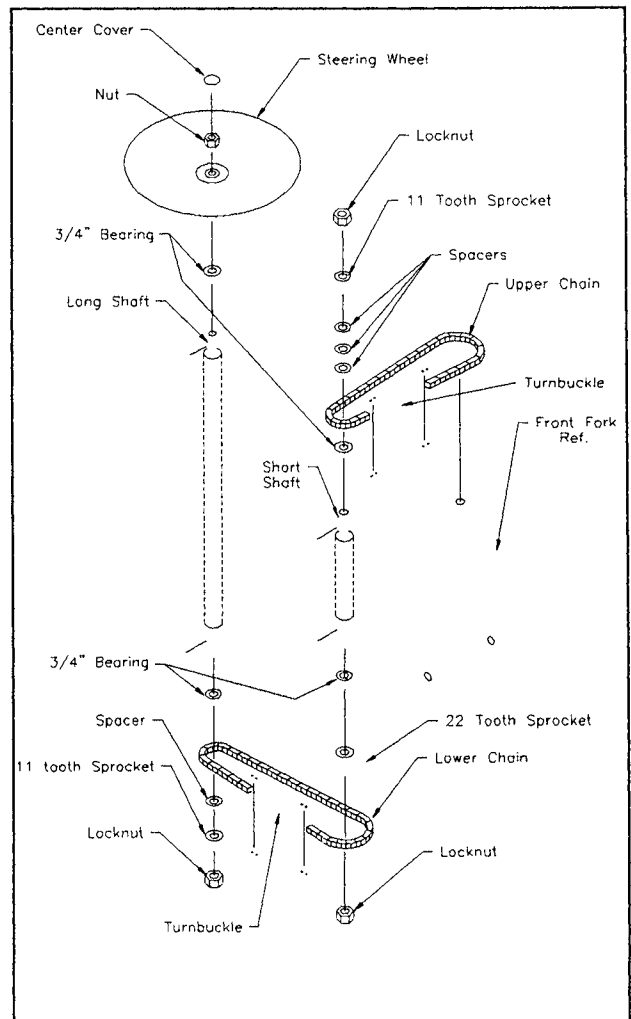

Figure 3-8
The steering chains connect the long primary steering shaft with the short secondary steering shaft, which is connected to the front fork (see Figure 3-8).
- Remove the steering chains by loosening the chain turnbuckles until they are disconnected and remove the chains. Note the position of the turnbuckles between the sprockets for proper reassembly (see Figure 3-8).